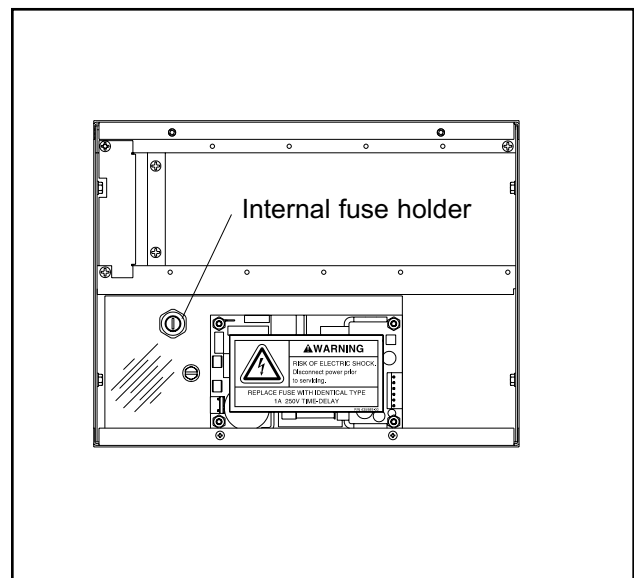

Figure 25: Alarm Panel Internal Fuse
2. If no indicator lights or LED displays are illuminated on front of alarm panel, first verify internal fuse is good (Figure 25). If fuse is good, continue this procedure.